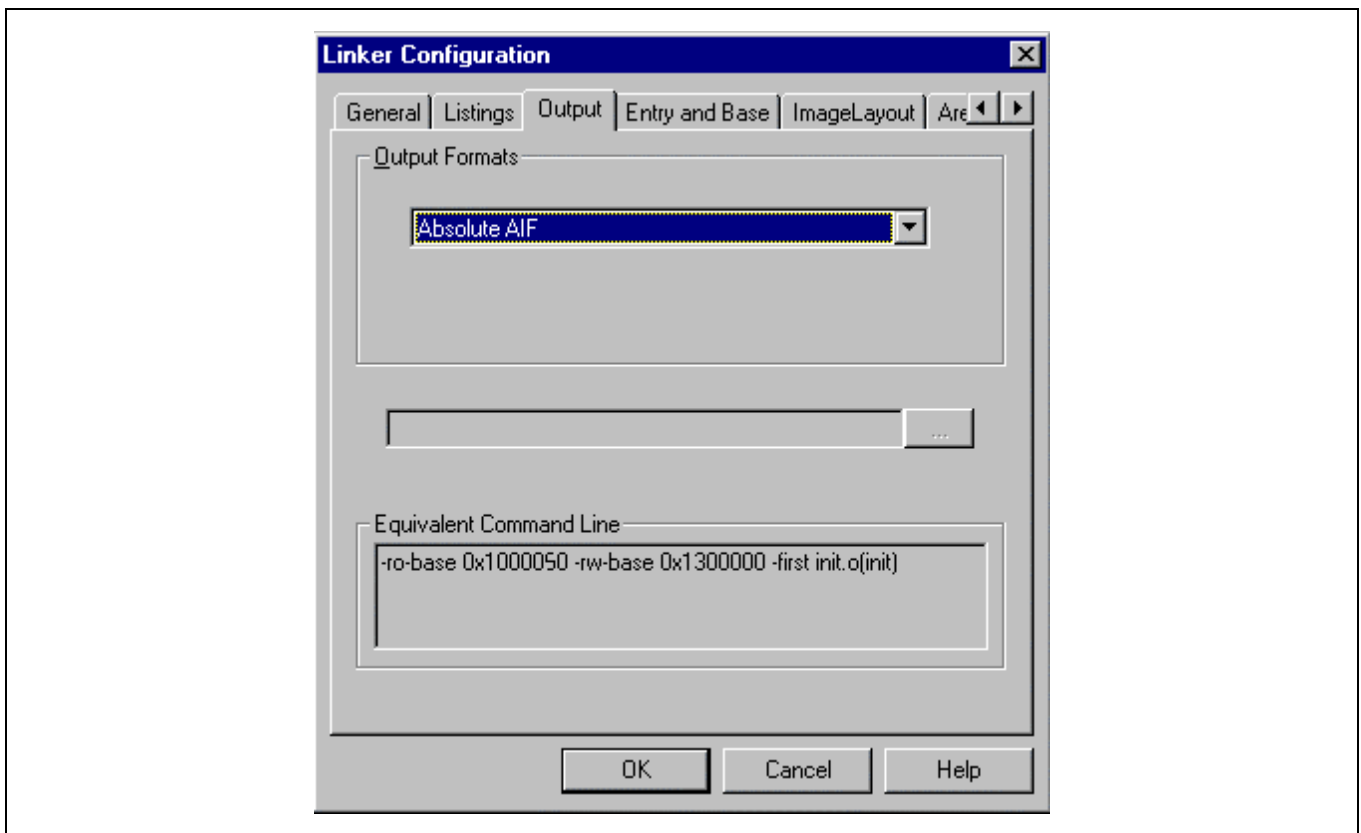

Figure 2-12. Linker Configuration: Output Page
3. Modify Output page on Linker Configuration dialog box (Figure 2-12).